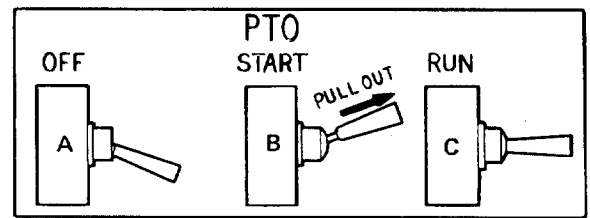

Figure 24
2. Flip the toggle switch to the "RUN" (C) position. (See Figure 24.)
5. PTO switch must be in the "OFF" (A) position when shifting the tractor into reverse or the PTO will shut off automatically. To reengage the PTO, shift unit into neutral. Move PTO switch to "OFF" (A) position. Then pull knob out and lift up to "START" (B) position and release.